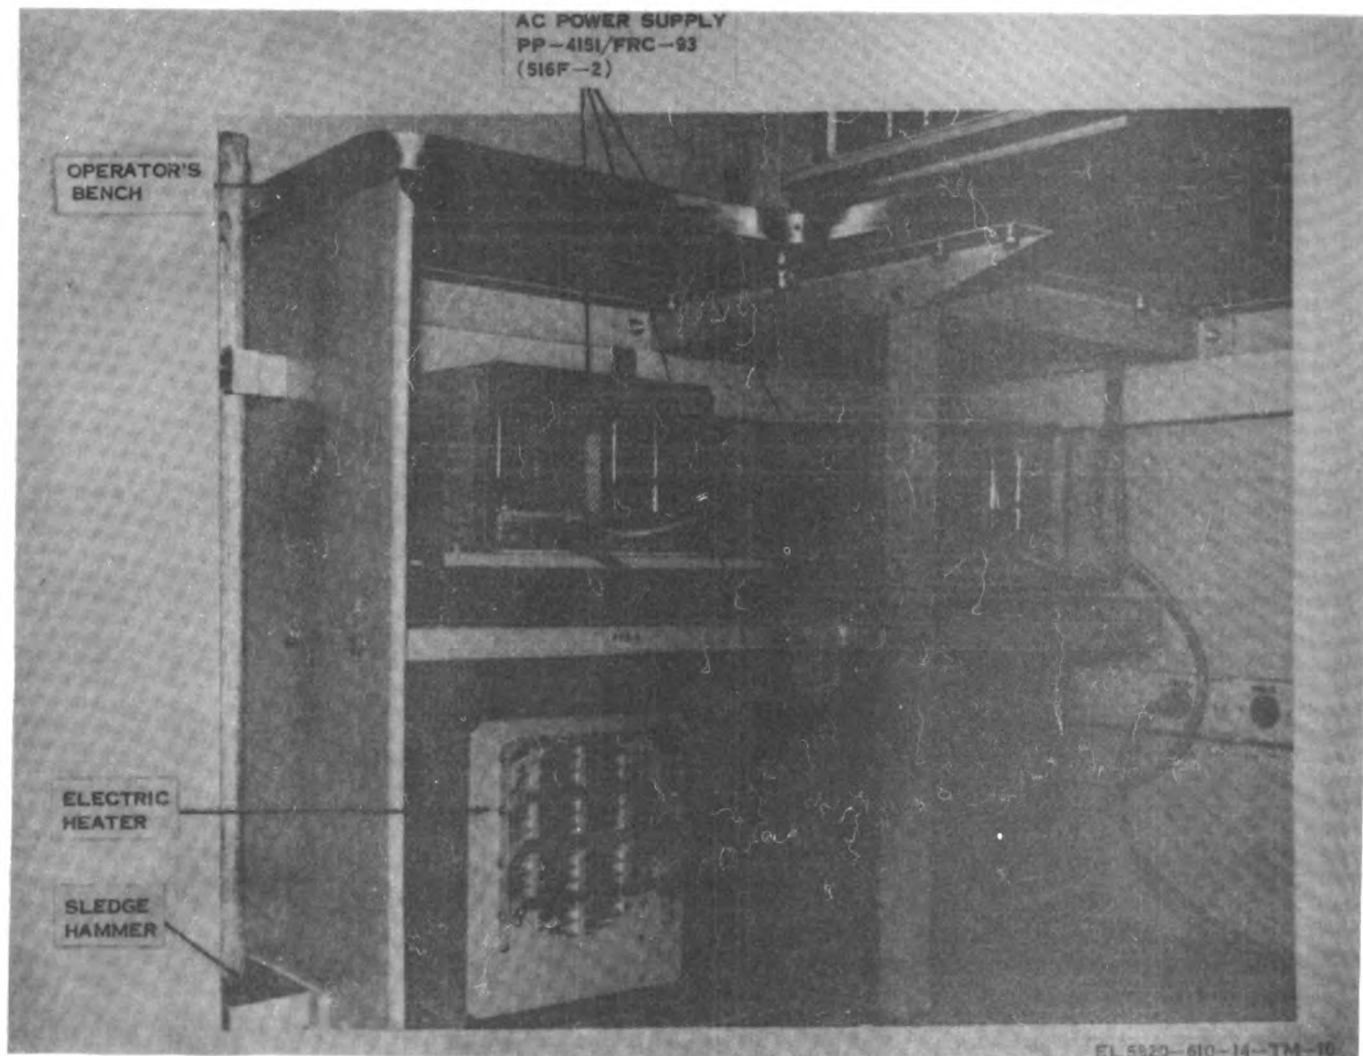

Figure 1-13. AN/TRC-133A shelter interior, rear left side view.
(4) Fluorescent lamps, located on the ceiling, furnish ac lighting in the shelter. They are controlled by a **FLUORESCENT LIGHT** switch (fig. 1-13) located on the rear wall near the door.
(5) Incandescent lamps (fig. 1-13, 1-14) are located on the roadside ceiling toward the rear of the shelter. They are controlled by the **INCANDESCENT LIGHT** switch located on the rear wall near the door. The light switch is a push-on, push-off variable dimmer type.
(7) Blackout protection is provided by the **BLACKOUT-BYPASS** switch (fig. 1-13) on the rear wall. When at **BLACKOUT**, the lights will go out when the door is opened; at **BYPASS**, the lights will go out when the door is opened.
g. Power Distribution Panel (Interior) (fig. 1-13). An ac power and signal entrance panel is located on the rear wall of the shelter. It contains all the circuit breakers which control ac power distribution within the shelter. Panel lamps (red) indicate which breakers are on. All ac power applied to the shelter is controlled by a MAIN (60-ampere) cir-